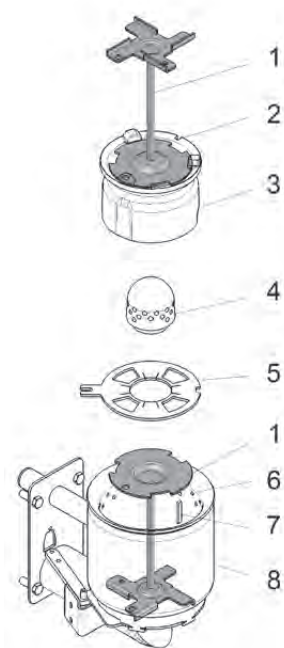
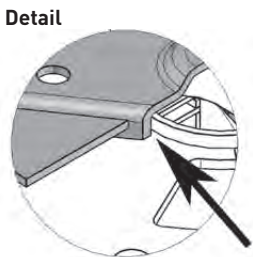

Fig. 134
Fig. 136
- Lift out the cone (3) using the cleaning tool (1) – Fig. 134.
- Use the spatula to scrape off the deposits from all sides of the cone (3), but particularly on the underside.
- Vacuum out the burner pot, remove the primary air pin (4) and carefully clean the holes with a small screwdriver or drill bit if necessary (holes must be clear).
- Lift out and remove the grate plate (5) from below through the base of the burner pot. Scrape off ash residues from the grate plate (5) and from the hole in the middle using the spatula to clean it.
- Scrape combustion residue off the burner pot base by turning the cleaning tool (1) – Fig. 134. The pipe for the primary air pin serves as a guide for the cleaning tool – see detail Fig. 136. Use the spatula to scrape the edges of the burner pot base clean. All secondary air holes (6) must be clear – clean them with a small screwdriver or drill bit if necessary.
- Insert the primary air pin (4) (groove must engage with anti-twist device).
- Place the cone (3) into the burner pot using the cleaning tool (1). The guide groove (2) of the cone must engage in the lock (7) – Fig. 134.